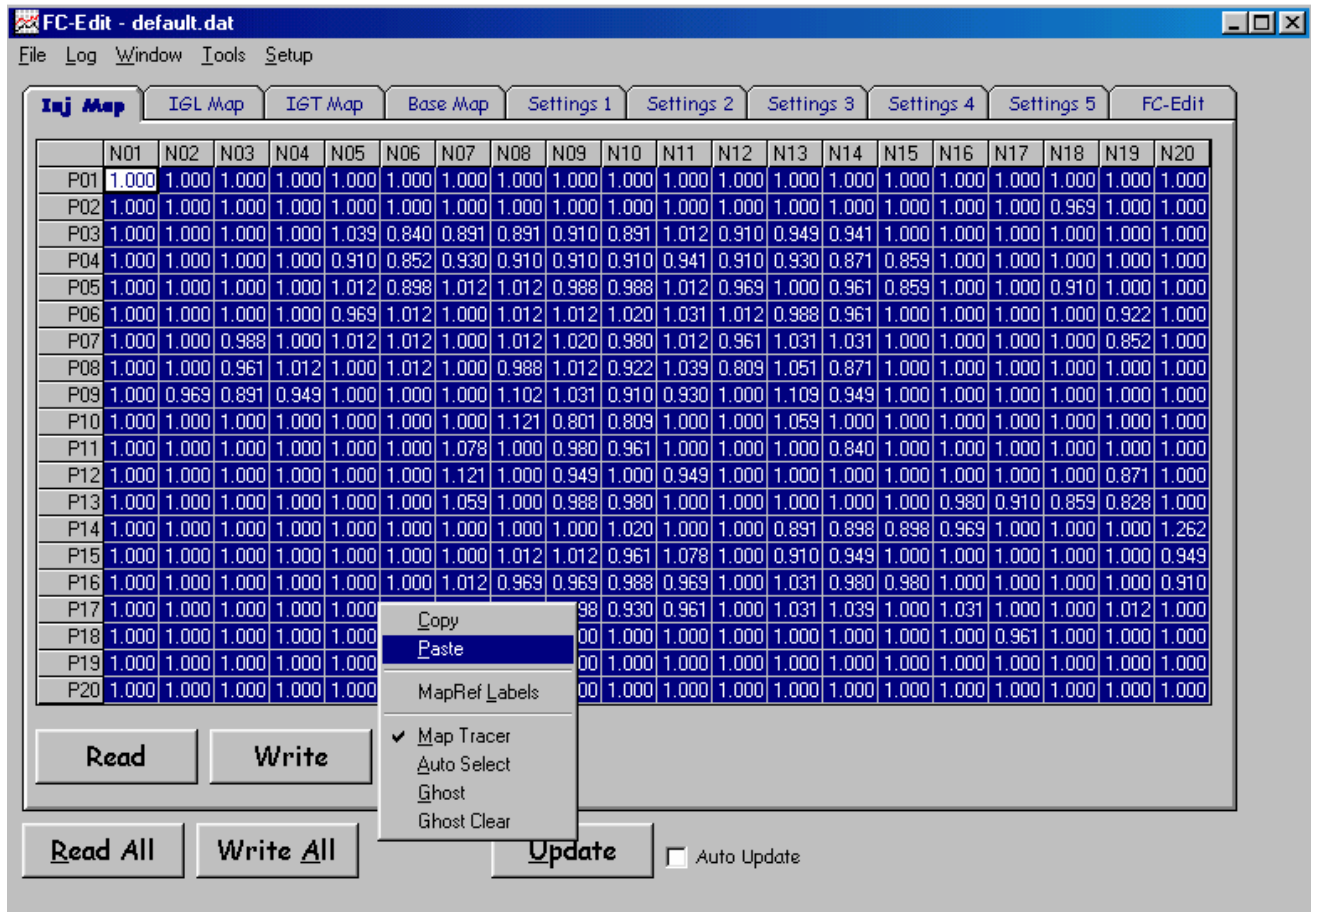

Figure 17. INJ MAP with Pasted Correction Values.
- Highlight the 20 x 20 INJ MAP and paste in the data by pressing Ctrl + V, or right click paste. Be sure to have the complete grid highlighted. The new INJ MAP should look like figure 17. Be sure to verify that the numbers pasted are in fact the numbers from the spreadsheet. They should be numbers close to 1.00. A number of 1.10 will add 10% fuel ad a 0.90 will subtract 10% fuel. Unless the car is running really rough, try to avoid large changes of %30+.